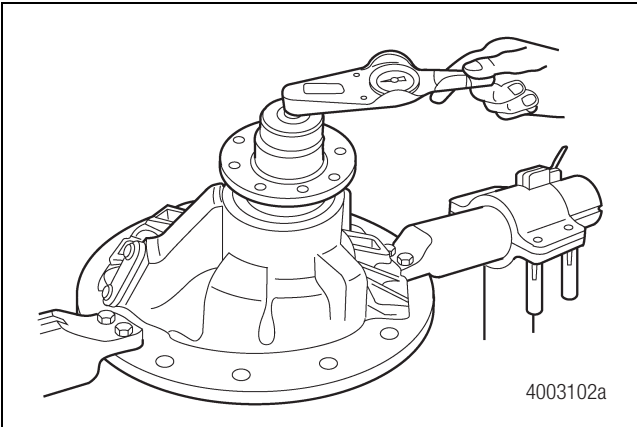

Figure 4.21
3. Check the pinion bearing preload. Attach a lb-in torque wrench to the pinion nut. Rotate the pinion. The value should be 38-48 lb-in (4.2-5.4 N•m). If not, adjust the outer shim accordingly. Figure 4.21.